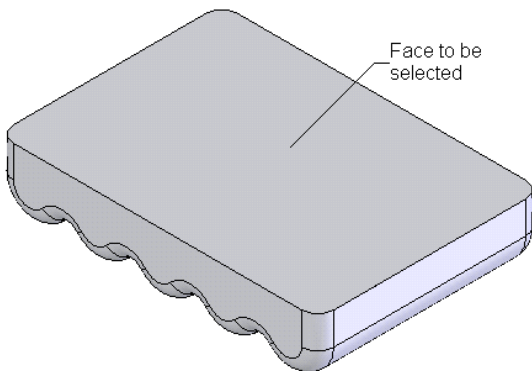

Figure 8-43 Face to be selected
- Add the shell feature to the model and remove the top face of the base feature, refer to Figures 8-43 and 8-44.
2. Select the top planar face of the model as shown in Figure 8-43.